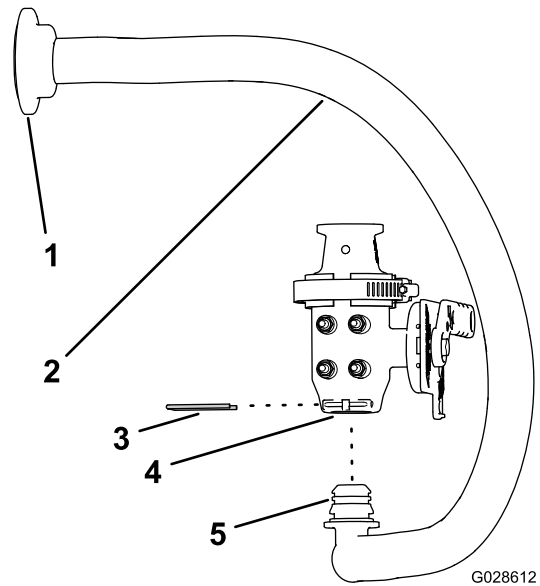

Figure 18
- Assemble the 90° elbow of the eductor supply hose into the bottom port of the eductor valve (Figure 18).
- Secure the elbow to the valve with the retainer (Figure 18).